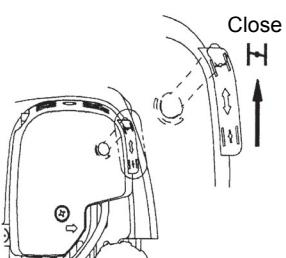

Figure 3
- Lift the choke lever to the closed position (Figure 3).